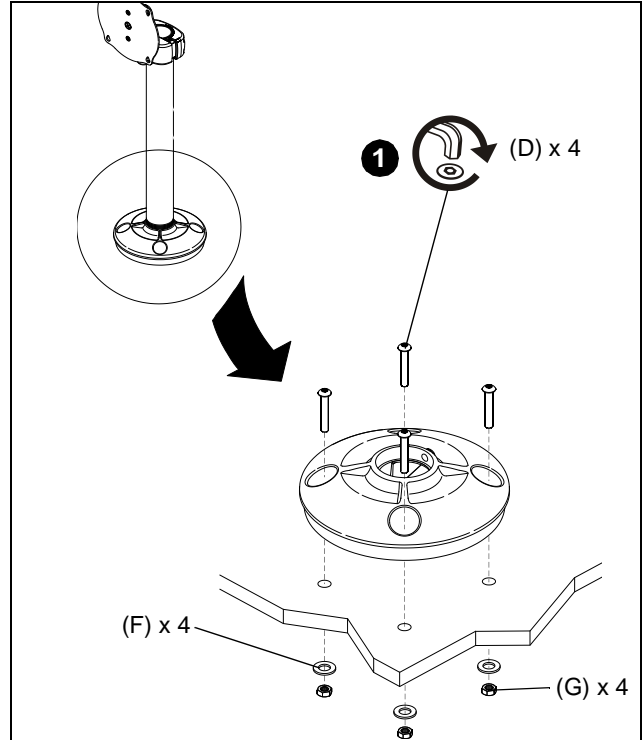

Figure 2
1. Remove four existing fasteners from base and replace with four 5/16-18 x 2" button head security screws (D). (See Figure 2)